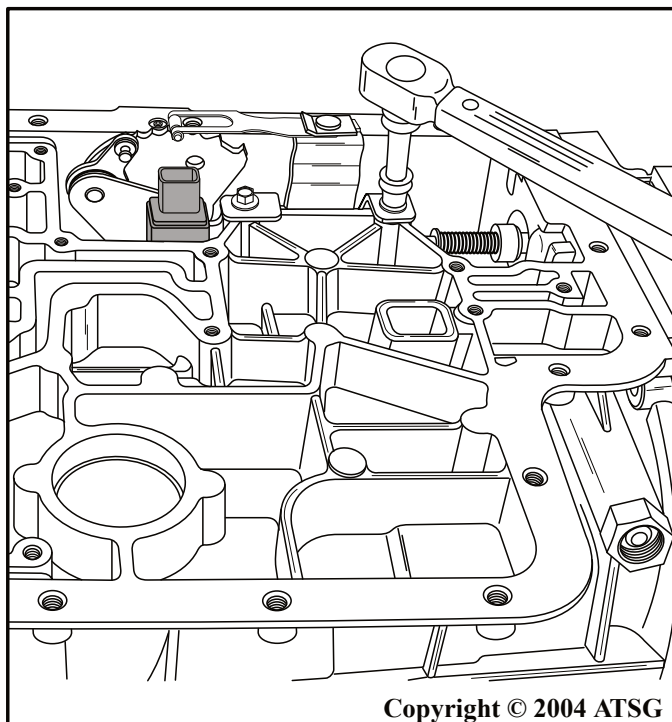

Figure 60
15. Torque the transmission range sensor retaining bolts to 10 N•m (89 in.lb.) (See Figure 60).